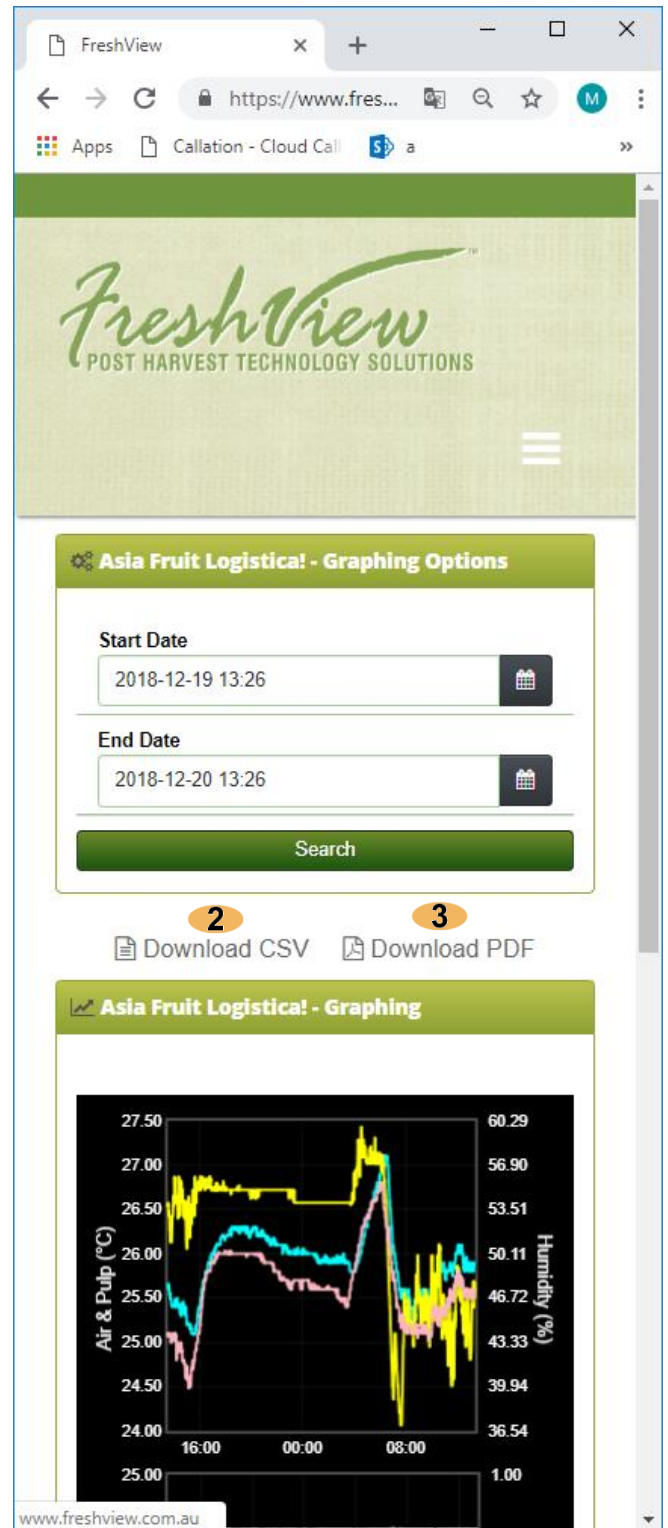

Figure 74: Mobile friendly room graphing web page.
- 1 **View Mobile Version:** Display the mobile friendly version of this page, see *Figure 74: Mobile friendly room graphing web page.*